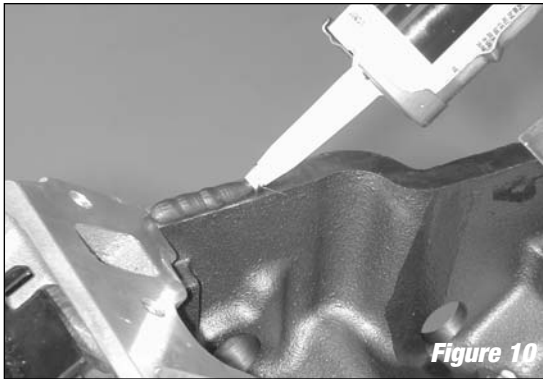

Figure 10
- With Edelbrock manifolds, you must use RTV High Temp silicone sealer instead of end seal gaskets. Apply a 1/4" thick ribbon of sealant across each end seal surface. Some installations will require O2 sensor safe silicone (**See Figure 10**).